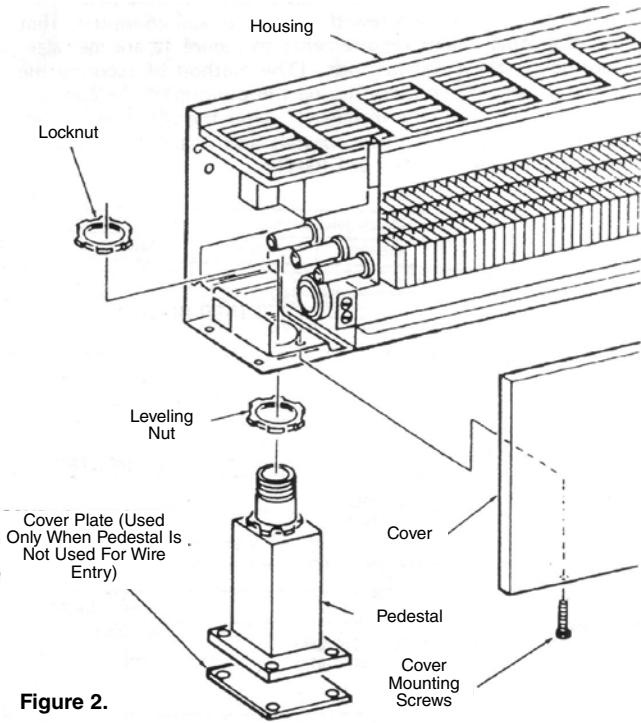

Figure 2.
Note When pedestal is not used for wire entry, pedestal base must be covered with cover plate (supplied with pedestal). See Figure 2.
1. Remove front cover by removing mounting screws (Fig. 2)
6. Replace front cover and secure with mounting screws. (See Figure 2.)
1. Remove front cover by removing mounting screws (Figure 2.)
- Replace front covers, and secure with mounting screws. (Figure 2.)